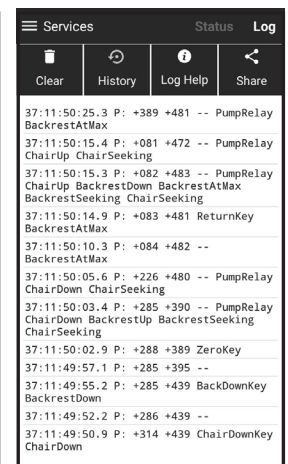

Fig. 4
**5 View Log:** Tap **Log** in the upper left of the screen to enter the Log Section of the app (Fig. 4) where you can view the Log Entries in real time as you operate the chair. You can also download the log history of the chair for the last 500 log entries, and you can tap the Share icon to email that log information to DCI Edge Technical Service Team for additional assistance. The Log Help window includes additional information for understanding the log entries and viewing the list of troubleshooting tips.